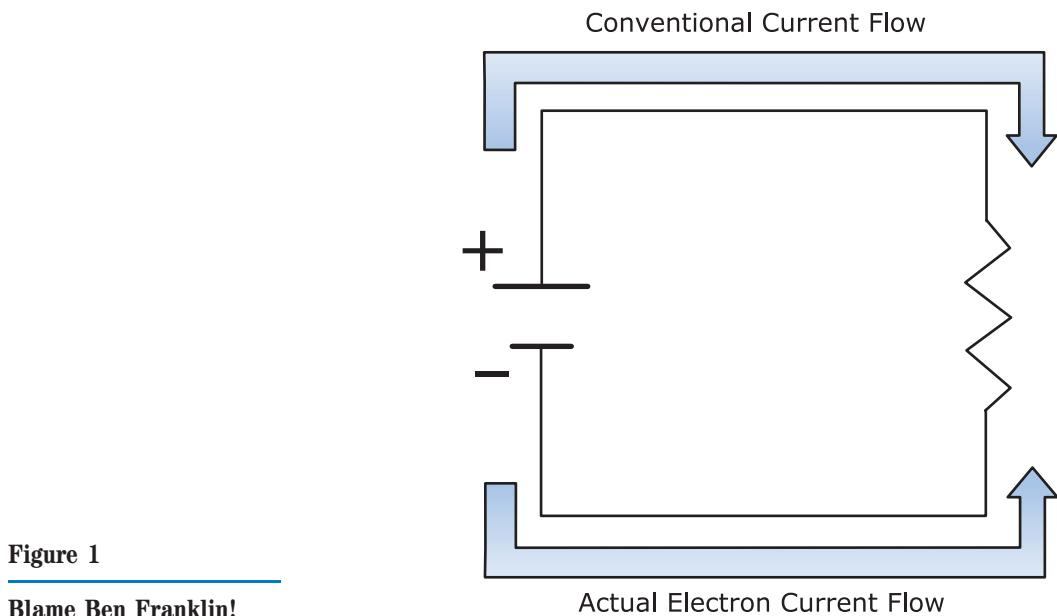

Figure 1
**semiconductors**, have properties somewhere between those of conductors and insulators. We distinguish among conductors, semiconductors, and insulators by a property known as **resistance**. Electric current, usually in the form of electrons, flows because of the voltage that is applied to them. The electrons in metal conductors flow from the negative to the positive direction in potential. However, traditionally (and unfortunately), the current is considered to flow from the positive pole of the battery to the negative one.1 It was discovered well after this convention had been adopted that the current carriers in metals are electrons and flow in the opposite direction (see Figure 1).